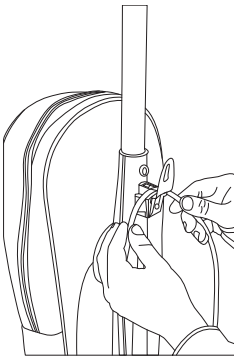

Fig. 5
2. Position the cord between the cord hook and the vacuum tube (Fig. 5).